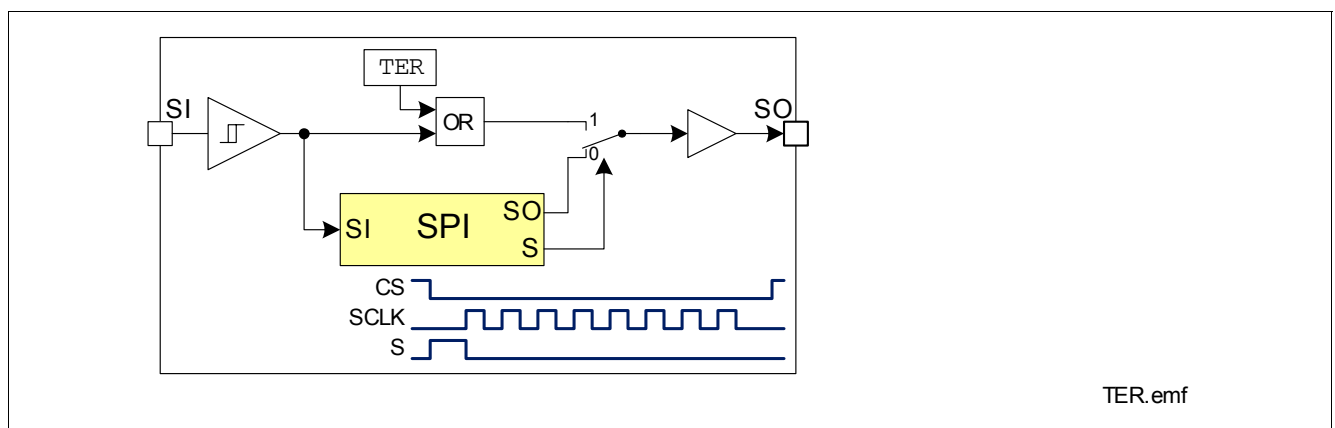

Figure 9 Transmission Error Flag on SO Line
- SO changes from high impedance state to high or low state depending on the logic OR combination between the transmission error flag (TER) and the signal level at pin SI. As a result, even in daisy chain configuration, a high signal indicates a faulty transmission. For details, please refer to Figure 9. This information stays available to the first rising edge of SCLK.